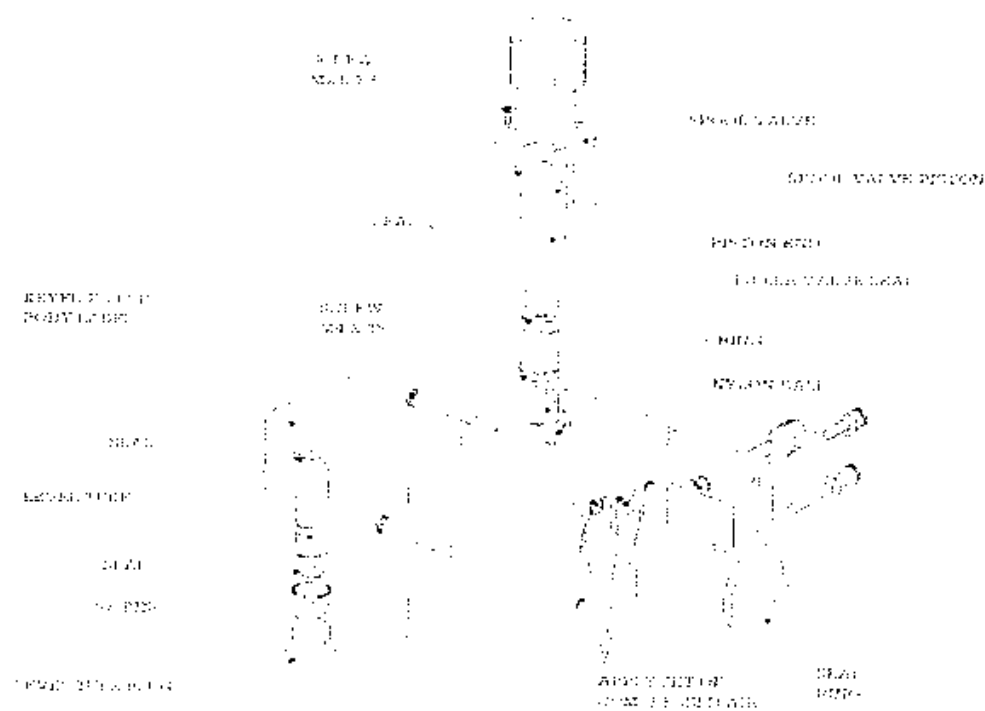

Figure 8 Keyed Filler Assembly
2.10.1 Keyed Filler Assembly (Figure 8, Page 17)